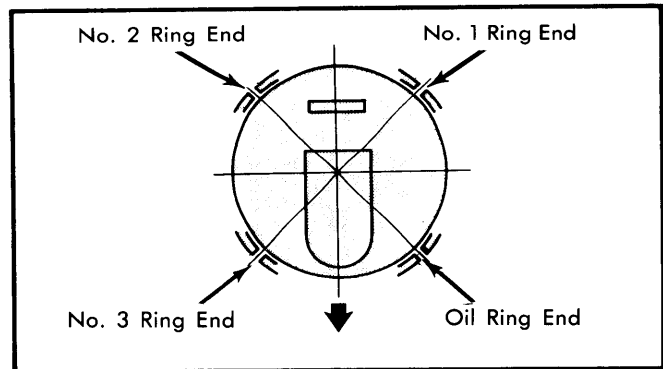

Fig. 9 Piston Ring Gap
**Installation** — 1) Oil piston rings, piston and sleeve wall lightly with engine oil. Install piston in original location making sure rings are positioned as shown in Fig. 9.